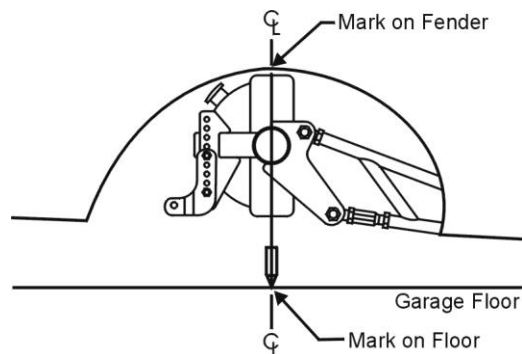

Figure 1
1. Start by setting the rear end housing, with the ladder bars preferably tack welded into place, on appropriate stands to locate the rear end housing into the proper position. Consider both the ride height and position in the wheel well opening that has been previously determined. **See Figure 1.**